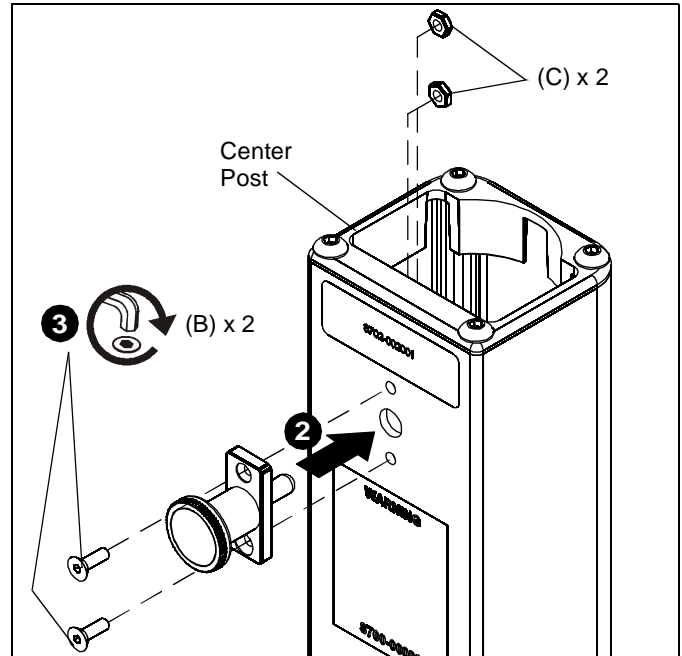

Figure 6
2. Insert new knob assembly (A) into center post. (See Figure 6)
3. Fasten new knob assembly using two 10-24 x 5/8" flat head cap screws (B) and two 10-24 lock nuts (C). (See Figure 6)